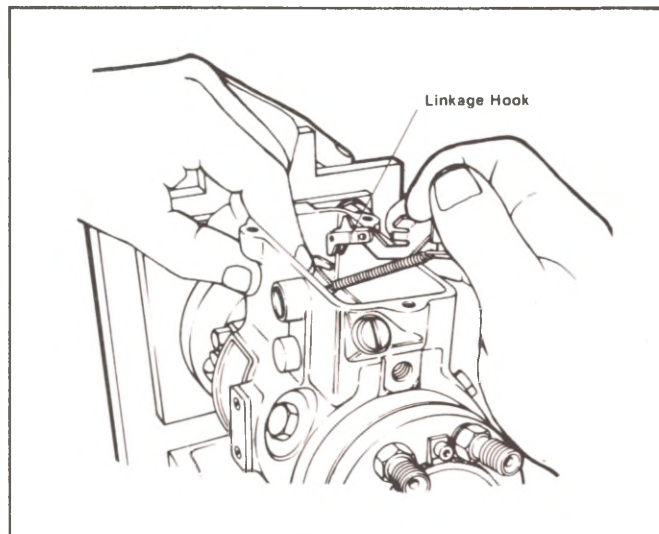

Fig. 3-12 Linkage Hook Assembly.
12. Lift up the governor linkage hook assembly and remove the metering valve. (NOTICE: DO NOT DISTURB LINKAGE HOOK ADJUSTMENT.) (Figures 3-12 and 3-13).
(D.) On external advance models, install tool J29601 to position face cam and insert a .005" feeler gage between throttle shaft washer and housing. Figure 3-12. Push throttle shaft into housing to remove clearance and torque face cam screw to 17-21 in. lbs. and secure with Loc-tite 290.